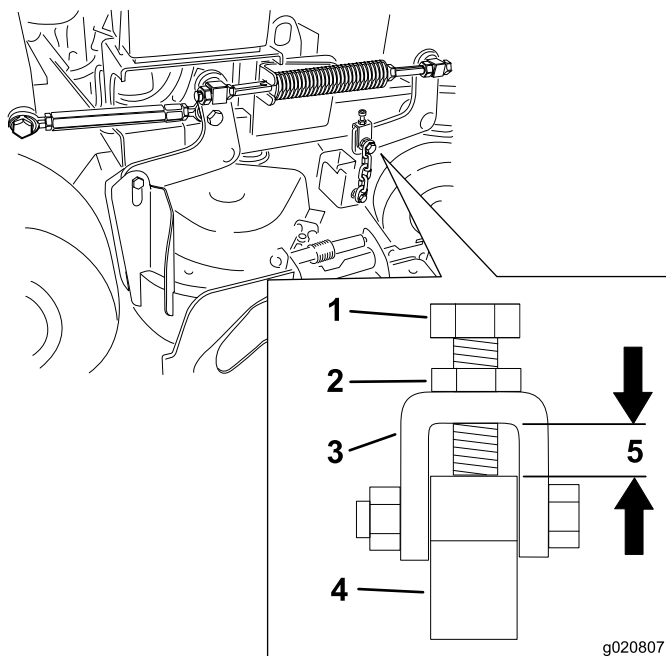

Figure 82
Note: This distance needs to be 11 mm (7/16 inch) as shown in Figure 82.
12. Loosen the jam nut and adjust the adjustment bolt to achieve the correct distance as shown in Figure 82.